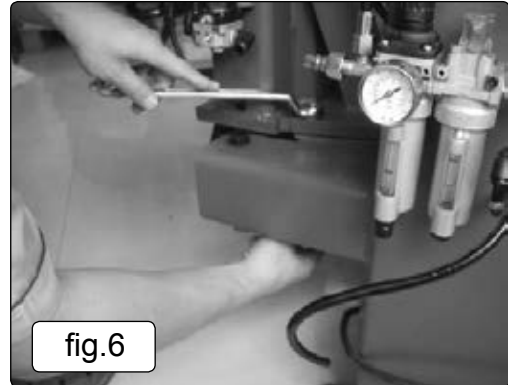

Fig.2 Key
- 4.1. Remove packaging and check contents according to the accessory list and fig.1. Clean for assembly. The assembled appearance is as shown in the fig.2.